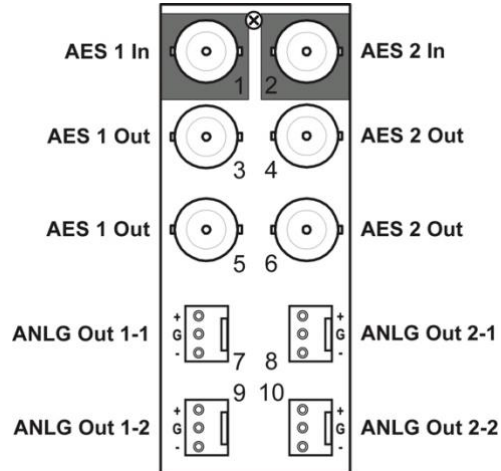

Figure 2.2 Cable Connections for the R2-6021-DAC-4AA Rear Modules
- R2-6021-DAC-4AA Full Rear Module — Each module occupies two slots and accommodates one card. This rear module provides two AES inputs, four AES outputs, and two stereo analog outputs. (**Figure 2.2**)